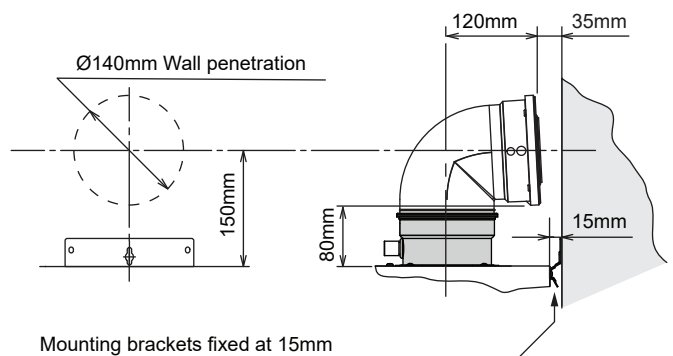

Fig. 8
2. Using the dimensions provided in Fig. 8, mark a point 150mm along the appliance centreline from the top of the water heater. This mark forms the centre for the 140mm diameter wall penetration.